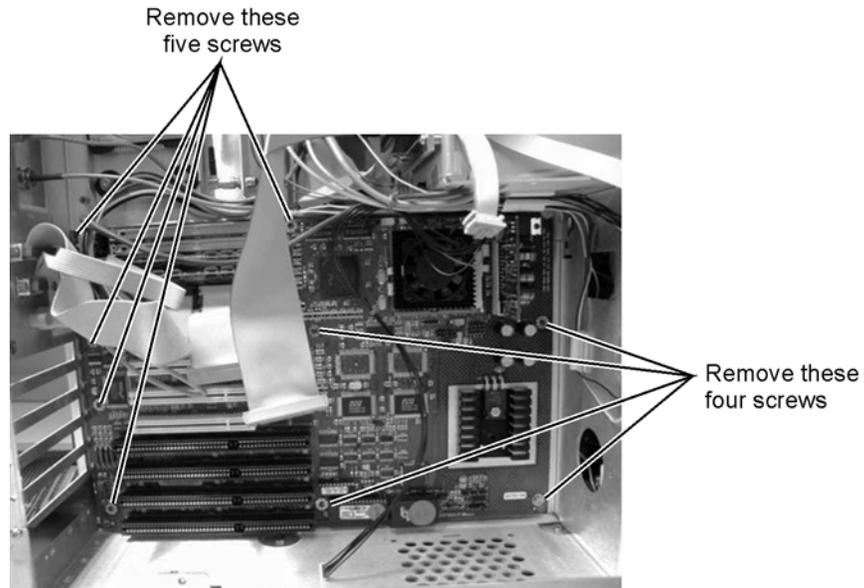

Figure 7-38. Removing the Screws from the Motherboard
- 6 Use a T-10 TORX driver to remove nine screws that secure the motherboard, as shown in Figure 7-38.